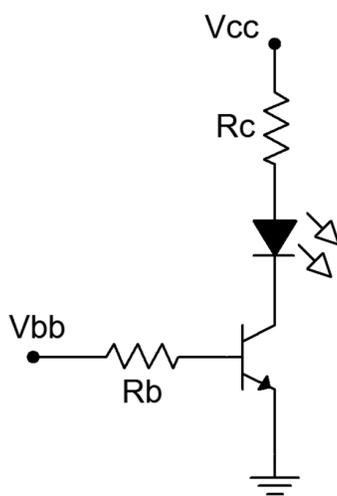

Figure 2
2. Consider the saturating switch of Figure 2 using  $V_{cc} = V_{bb} = 5$  volts,  $R_b = 4.7 \text{ k}\Omega$  and  $R_c = 220 \Omega$ . Calculate the base and collector currents and record them in the first row of Table 2 (theory). As the circuit is in saturation, the theoretical  $V_{CE}$  is close to zero and may be found on the transistor data sheet via the  $V_{CE}/I_C$  saturation graph. Record this value in the first row of Table 2 as well.
3. Build the saturating switch of Figure 2 using  $V_{cc} = V_{bb} = 5$  volts,  $R_b = 4.7 \text{ k}\Omega$  and  $R_c = 220 \Omega$ . Measure and record the base and collector currents, and record the collector-emitter voltage in the first row of Table 2 (experimental). Also compute and record the deviations between theory and experimental results.
13. Simulate the circuit of Figure 2 and record the currents and voltage in Table 5.